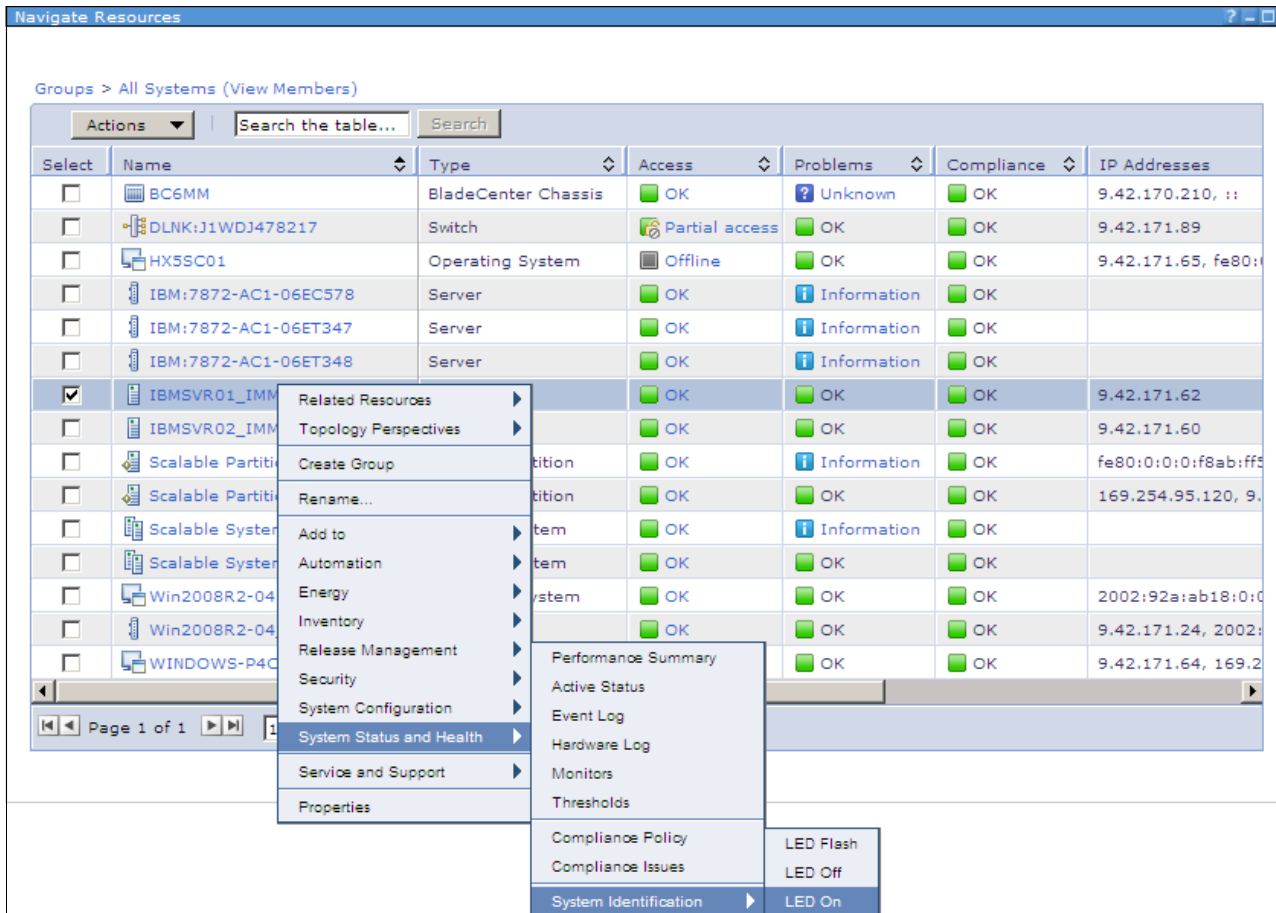

Figure 9-43 Identifying a system within the IBM Systems Director console
- Right-click the IMM of the server or blade that you want to identify and select **System Status and Health** → **System Identification** → **LED On**, as shown in Figure 9-43.